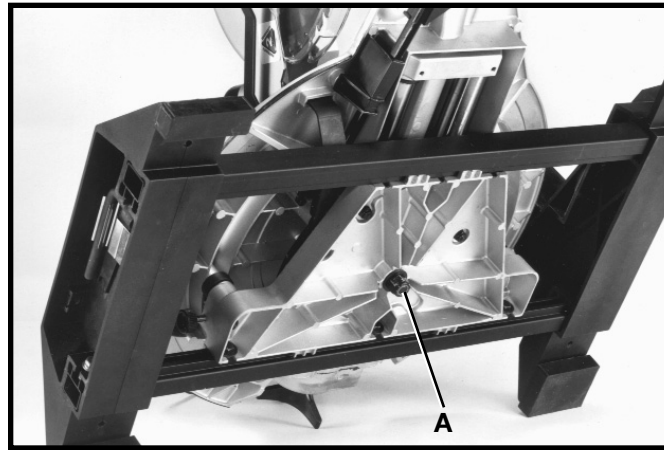

Fig. 34
When it becomes necessary to adjust the sliding fit between the movable table and the base proceed as follows: Turn nut (A) Fig. 34, clockwise to increase or counterclockwise to decrease the sliding fit. This adjustment should not be too tight that it restricts the rotating movement of the table or too loose that it affects the accuracy of the saw.